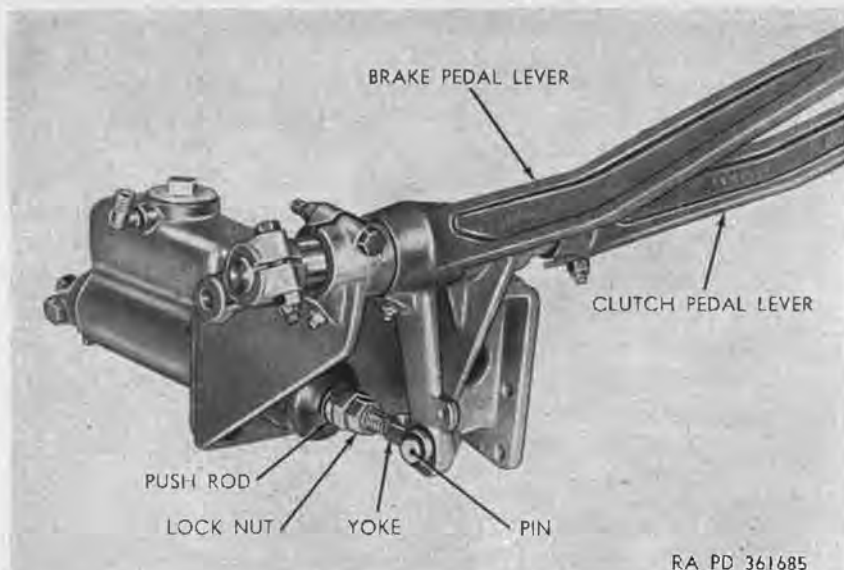

Figure 237. Right front view of brake pedal linkage.
a. Brake Pedal Free Travel Adjustment. Brake pedal free travel, which is the distance the brake pedal is depressed before the master cylinder push rod pinned to the lower end of the pedal lever (fig. 237) moves before contacting the piston inside the master cylinder, must be between one-fourth and one-half inch. Excessive free travel reduces the usable stroke of the master cylinder piston, and insufficient free travel will cause the brakes to drag after several applications. Check brake pedal free travel and adjust, if necessary (1) through (6) below.
- (1) Remove pin (fig. 237) securing push rod yoke to pedal lever.
- (2) Hold push rod to prevent it from turning, and loosen locknut on yoke.
- (3) Holding push rod, turn yoke until desired brake pedal free travel is obtained.
- (7) Remove cotter pin from end of yoke pin (fig. 237), remove yoke pin, and remove push rod yoke from lower end of brake pedal lever.